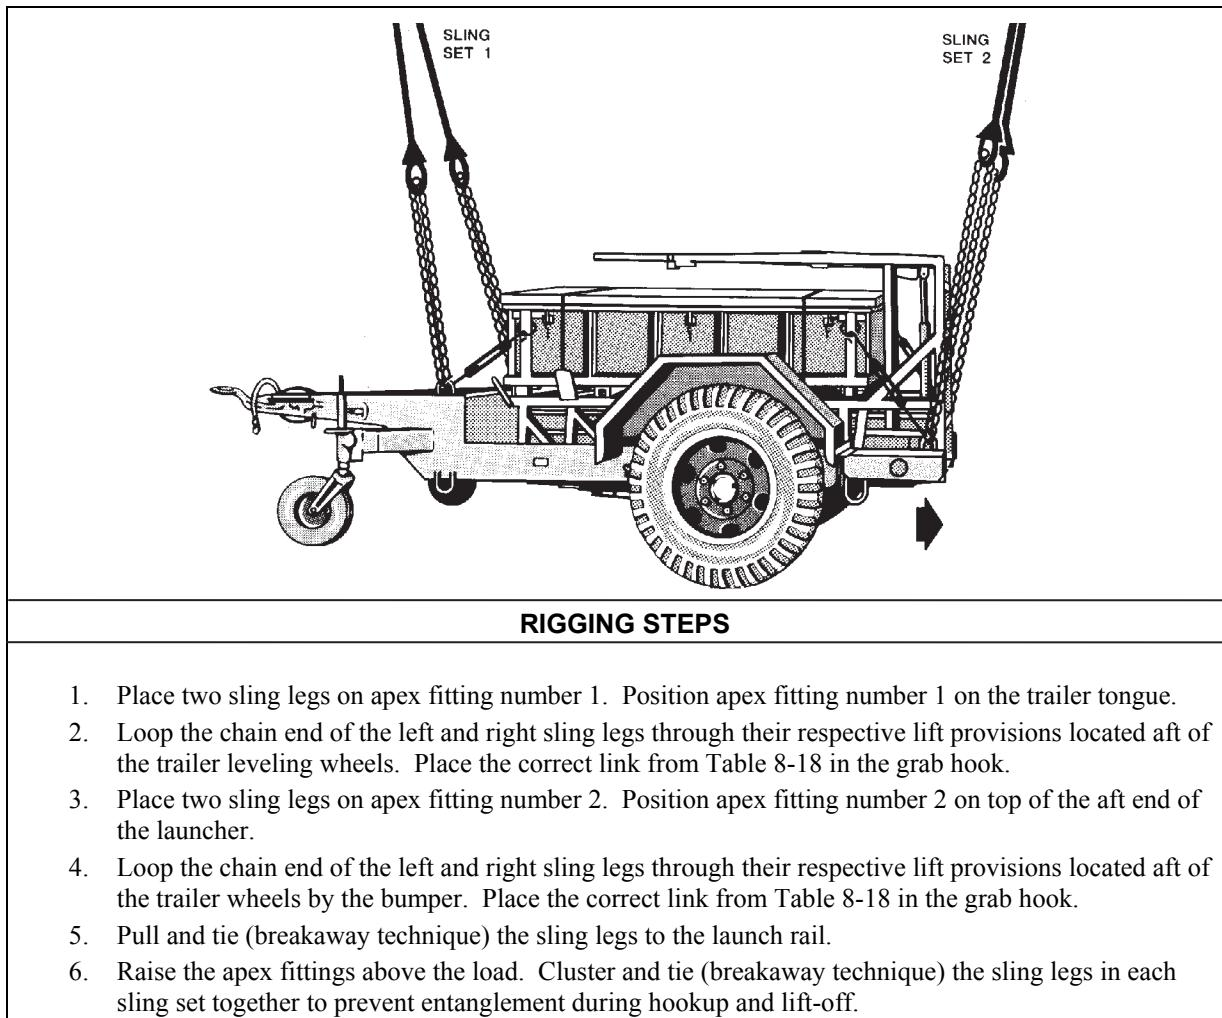

Figure 8-18. Mine Clearing Line Charge Mounted on M353 Trailer
- **Rigging.** Rig the load according to the steps in Figure 8-18.